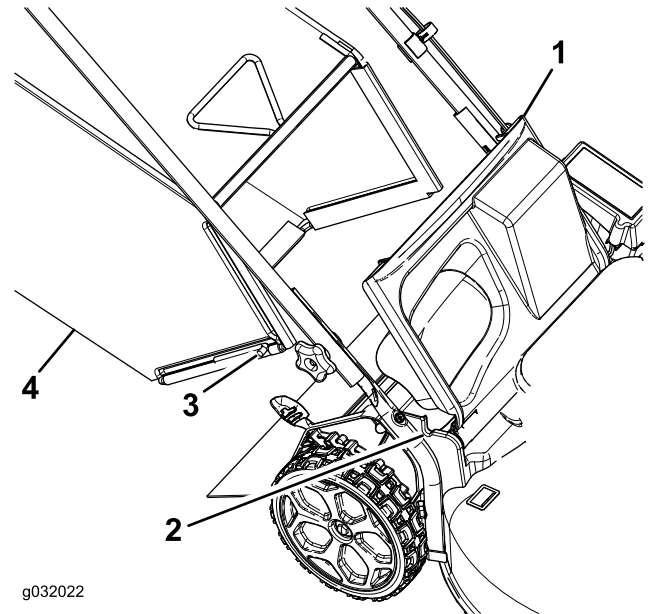

Figure 20
1. Lift up the rear deflector (Figure 20).
2. Insert the rod ends of the grass bag into the notches in the handle brackets (Figure 20).